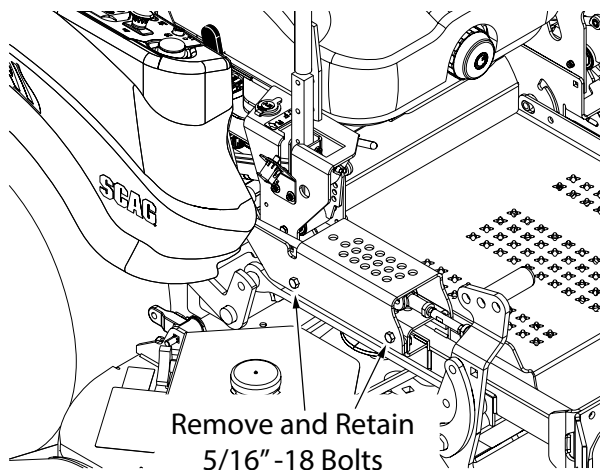

Figure 3-22. STCII Hardware Removal
4. Using a cable tie, retain the wires from the RF control module to the hole in the RF control module guard. See Figure 3-22.
5. Locate the "A" terminal on the key switch and install the green wire from the E-OCDC harness to the key switch. See Figure 3-22.
6. Plug the EOCD main wire harness into the RF control module. See Figure 3-22. DO NOT plug the EOCD motor harness into the RF control module at this time, this may cause movement of the linkages.